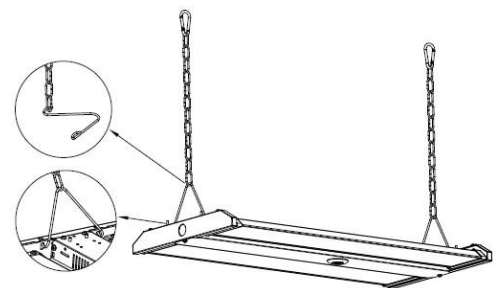

Figure 1
1. Locate the two chains and two V-hooks (included). Attach each chain to a V-hook (Figure 1).
2. Insert the V-hooks into the pair of holes located at each end on top of the fixture (Figure 1).
3. Attach chains to an appropriate ceiling structure and adjust the chain length as needed (Figure 1).